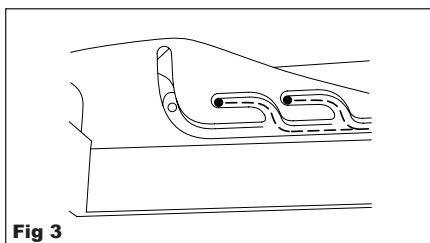

Fig 3
- (ii) Whilst depressed, slide the bar to the desired position and locate into the stops provided (Fig 3).